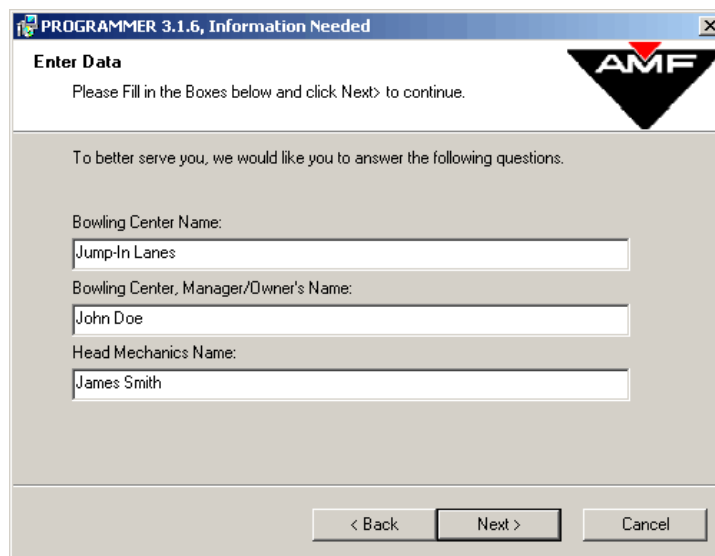

Figure 1-11
13. **Figures 1-11, 1-12, 1-13, and 1-14** show screens that have text boxes to type in basic information about your bowling center. Please fill in each box with your information and click the <Next> button after each screen is complete.